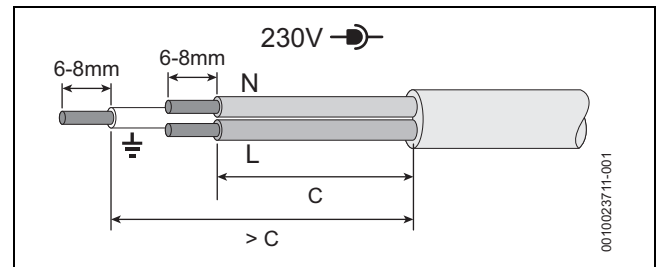

Fig. 63 Power supply (power cables) preparation
**Power supply (power cables), example → figure 63**
- ▶ Ensure the conductors (C) can reach the appropriate terminal connection and that the protective (earth) conductor is longer than the other wires.